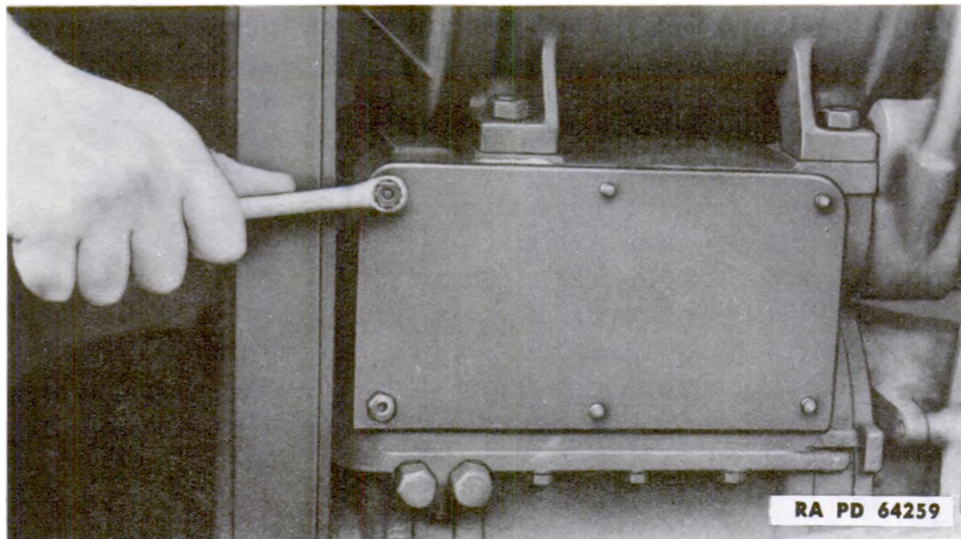

Figure 194 – Removing Oil Gear Side Cover Plate
(5) Remove the terminal side cover (fig. 194) over the transmitter and electrical differential assembly, exposing the terminal screws. This cover is on the same side as the clutch lever.